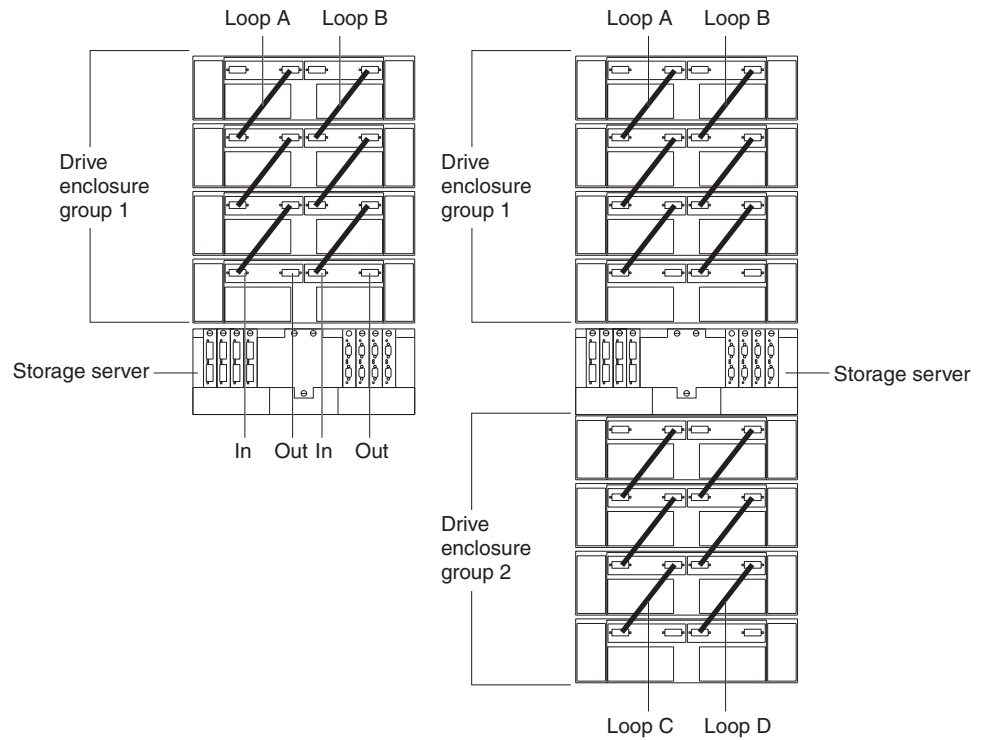

Figure 30. Connecting additional drive enclosures to drive loops A and B
3. Connect additional drive enclosures to drive loops A and B, as shown in Figure 30 on page 29.